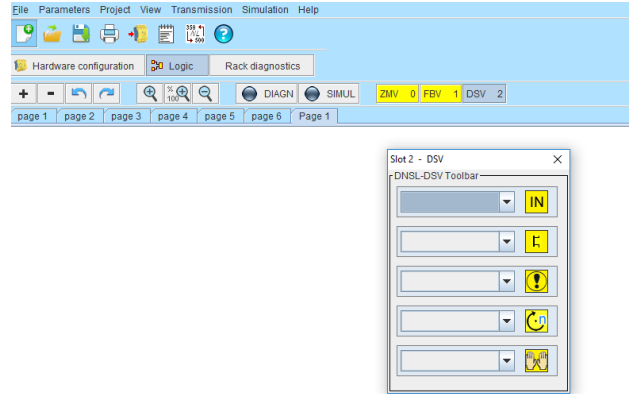

Fig. 5-2
- Open the toolbar of the SL VARIO module by clicking on the corresponding module. (Fig. 5-2)